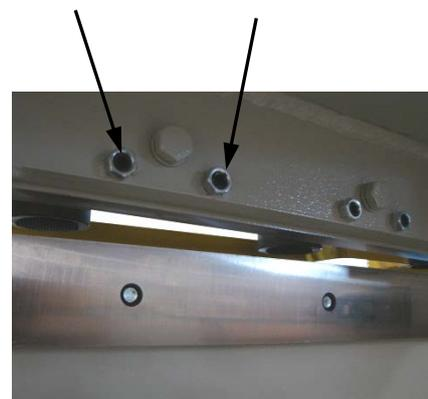

figure 26
18. The blade gap adjustment setscrews are shown in (fig. 26). These were preset at the factory. **ADJUST ONLY IF ABSOLUTELY NECESSARY!**